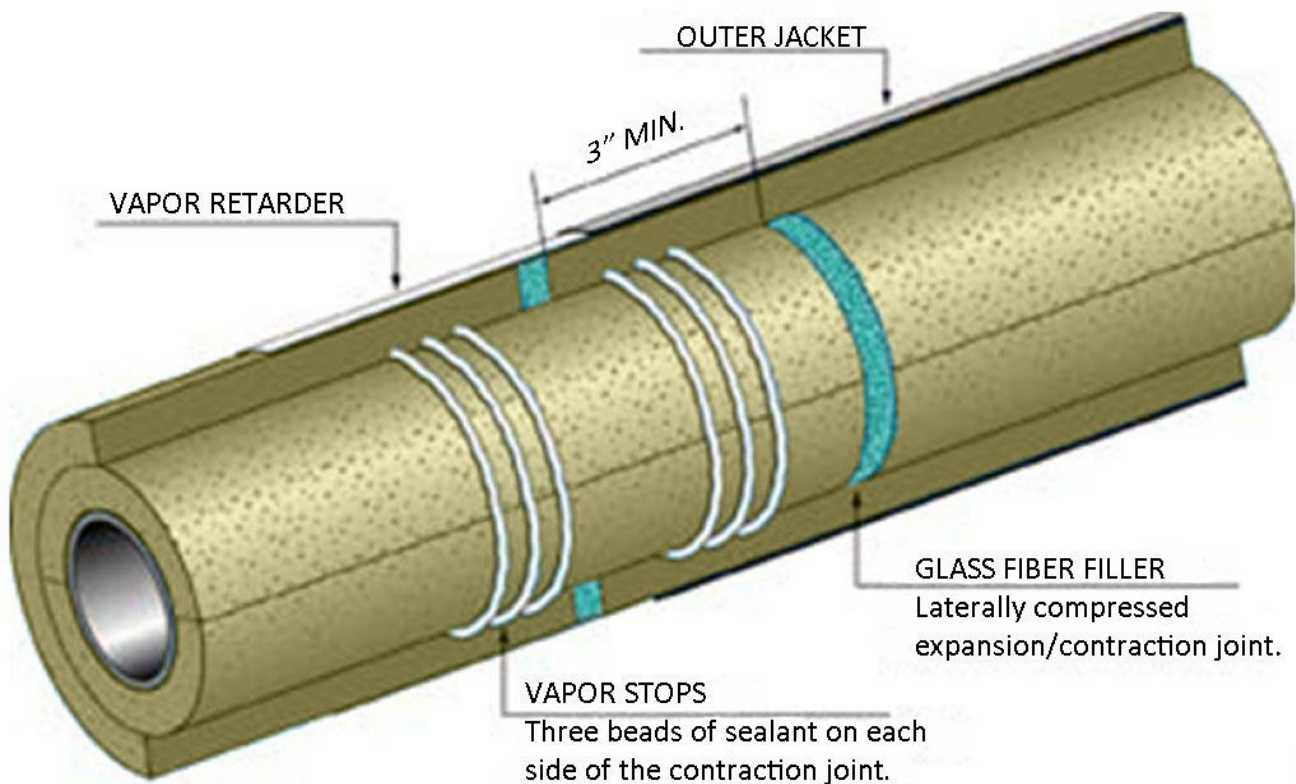

Figure 5
- 4.1.13 Contraction/expansion joints shall be installed as described in section 3.5 and illustrated in Figure 5 in Appendix B or approved alternate design. The appropriate designer or engineer must specify the spacing of contraction/expansion joints separately for each system.